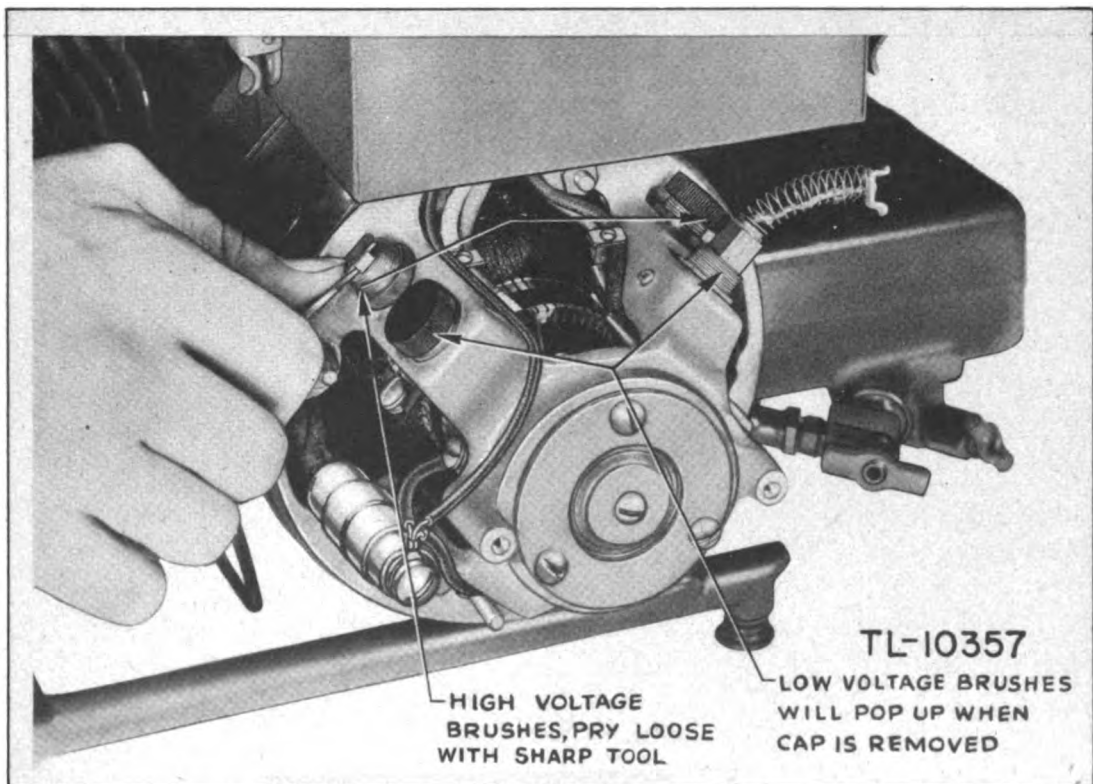

Figure 66—Brush Removal
b. To Replace Brushes.—The brush and spring assemblies can be removed by moving bakelite brush holder caps from holders. (Fig. 66). To install brush and spring assemblies reverse the